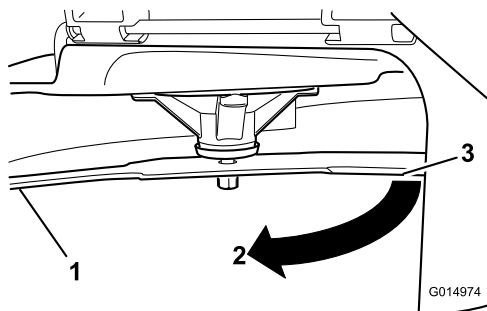

Figure 99
3. Measured distance between blade and the surface (A)
4. Rotate the same blade 180 degrees so that the opposing cutting edge is now in the same position (Figure 99).